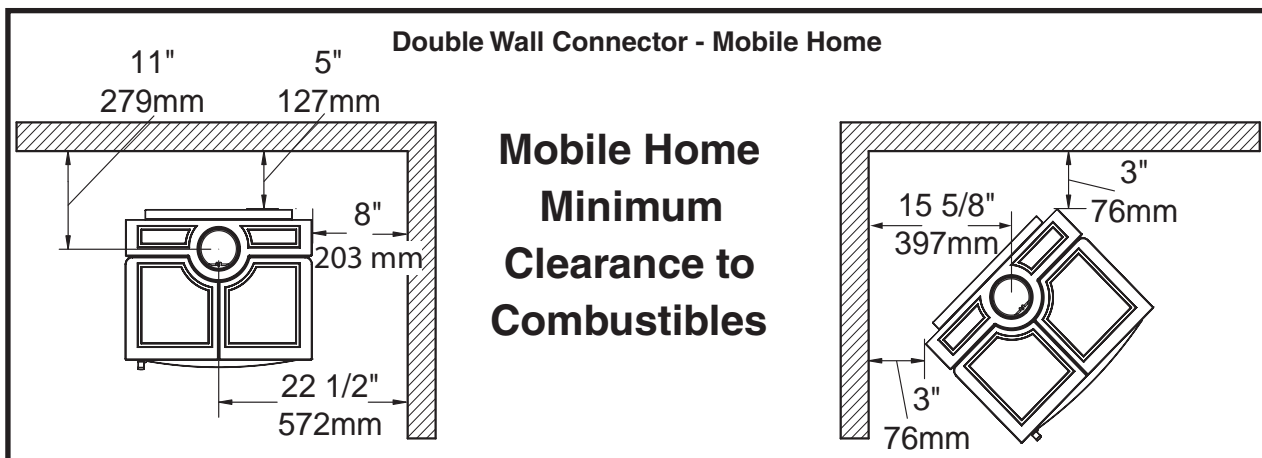

Figure 14: Mobile home wall connector clearances.
1. Position stove and floor protection with hole for combustion air in accordance with the clearances as stated on the label and in Figure 14.